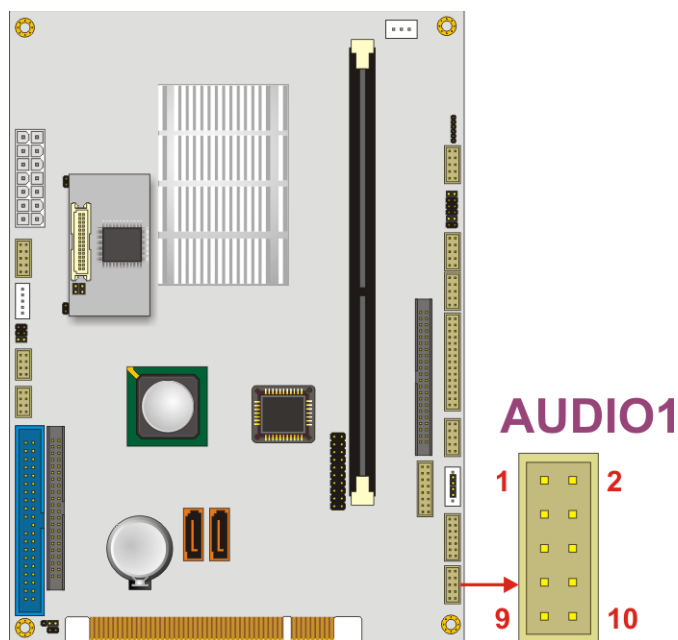

Figure 3-3: Audio Connector Location
- CN Location:** See Figure 3-3